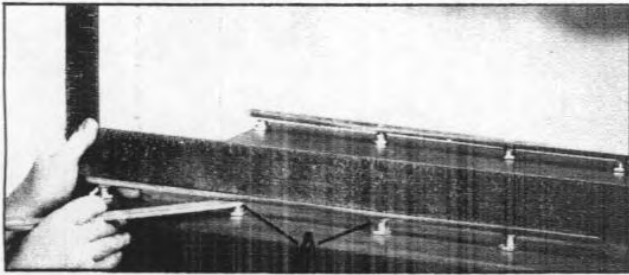

Fig. 16
10. Lay a straight edge on the leveling strips and adjust the center two screws (A) Fig. 16, if necessary. The front table screws can now be removed.